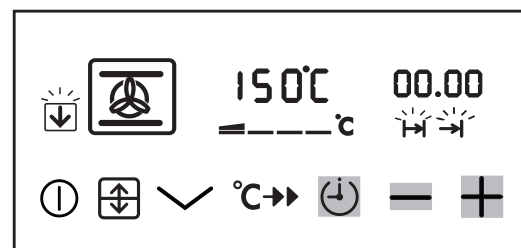

Fig.13.
- i) To stop the sound press any button, as Fig. 13.